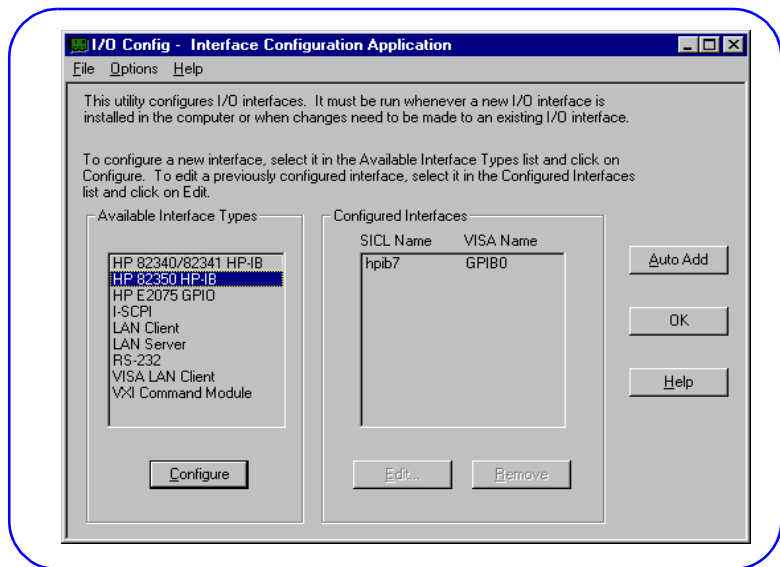

Figure 23. Typical I_O Config Utility Screen
- 7 When the **View Readme and Configure Interface** screen appears, be sure the *Configure interfaces* box is checked. (You can uncheck the *View Readme* box if desired.) Then, click *Next* to display the **I_O Config** screen (see Figure 23).